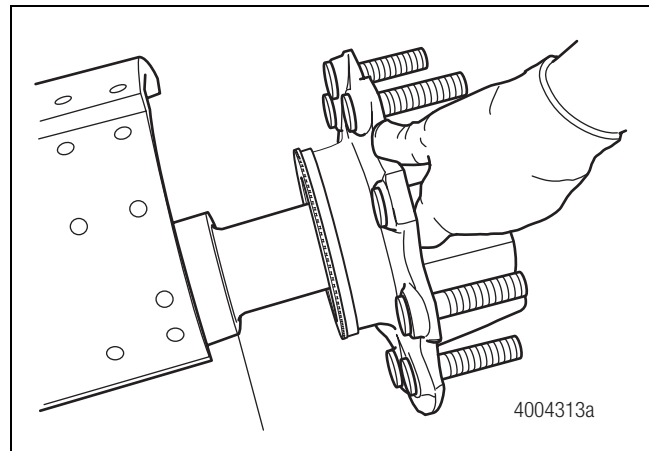

Figure 4.26
6. Carefully align the hub to the axle spindle and slide the hub straight onto the axle spindle taking care not to damage the secondary seal. Figure 4.26.